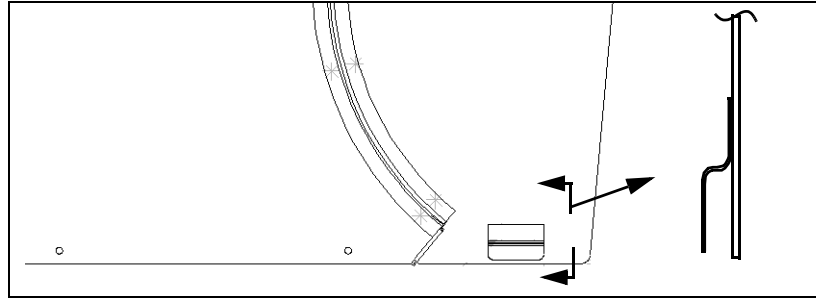

Figure P-3—Detail of Clip on the Inside of the Lower Cover
5. Slide the cover up (toward the Control Panel) to unhook a clip in the lower left corner, then lift off. See Figure P-3.